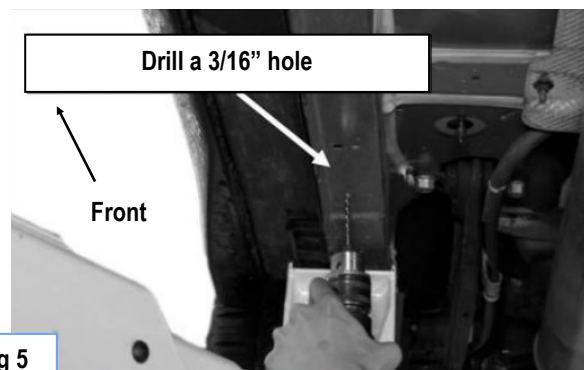

Fig 5
Remove bracket and drill a 3/16" hole on the body panel according to the mark. Enlarge the hole to 7/8" with a unibit (Fig 5 & 6). Suggest to paint the drilled hole with undercoating for antirust. And then insert (1) M10x35 Short Bolt Plate into the hole.